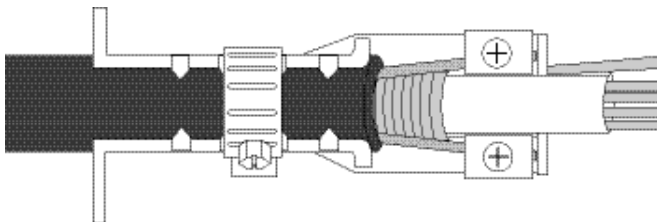

Fig. 12
8. Adjust the sheath retention clips until they grip the cable sheath. Wrap a hose clamp around the sheath retention clips and cable and use a quarter-inch nut driver to tighten the hose clamp in place. (Fig. 12) Tighten the clamp such that the retention teeth fully seat into the cable assembly. Do not tighten the clamp so much that it deforms.